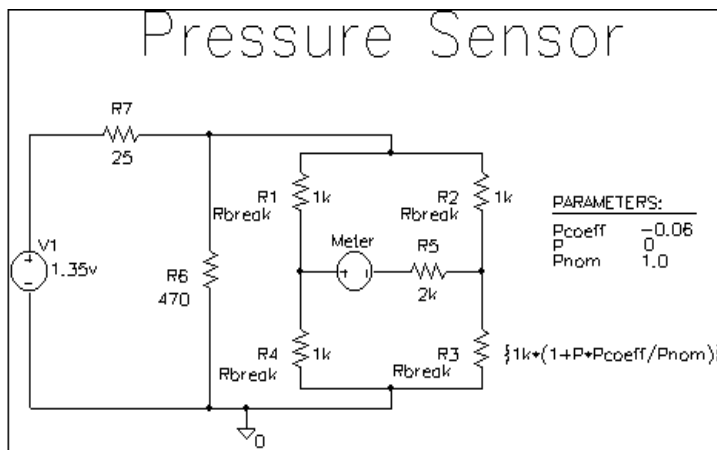

Figure 78 Pressure sensor circuit.
To begin, construct the bridge as shown in Figure 78.
Define the part values as shown in Figure 78. For the pressure sensor, you need to do the following:
- 2 Type the new value. Depending on the resistor you are changing, set its value to one of the following (refer to Figure 78).